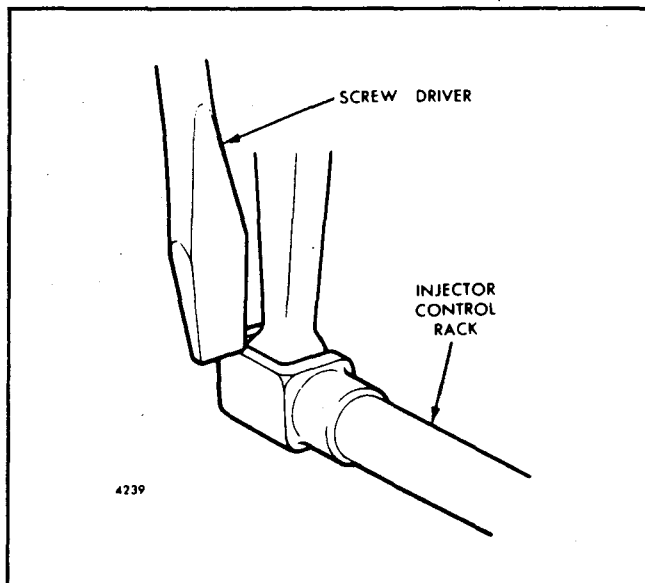

Fig. 5 - Checking Injector Rack "Spring"
7. To be sure the rack control lever is properly adjusted, press down on the injector rack with a screw driver or finger tip (Fig. 5). A light pressure should cause the rack to rotate. The rack is sufficiently tight if the rack returns to its original position when the pressure is removed. The rack is too tight if a heavy pressure is required to rotate the rack.